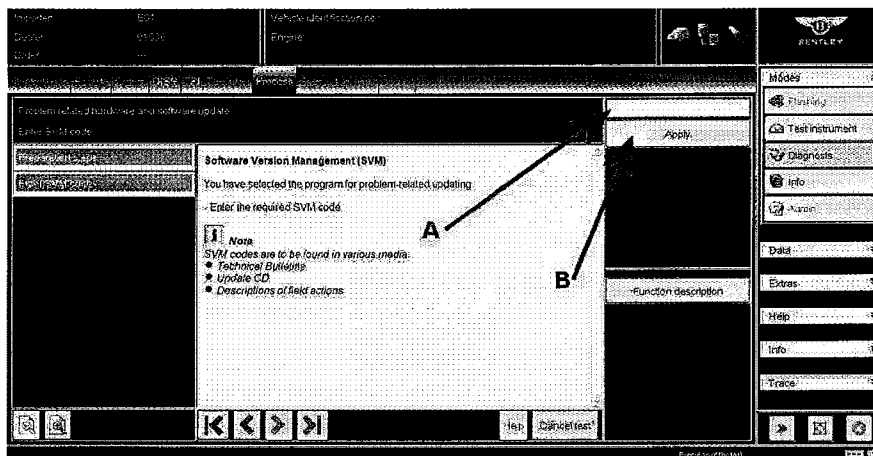

Figure 8
5. When prompted enter the SVM code **3Y034A0001P** into the box shown in Figure 8 (point A)